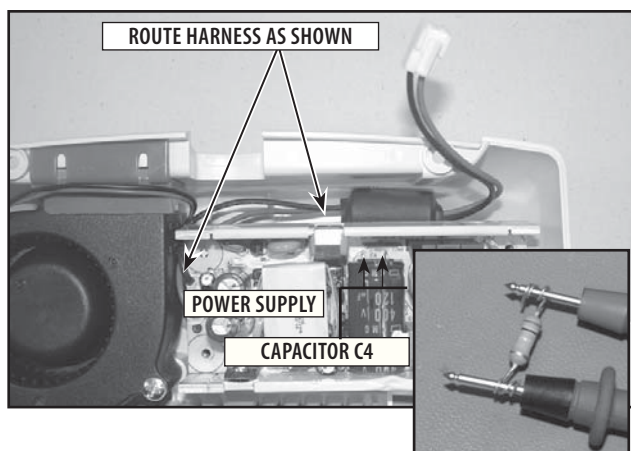
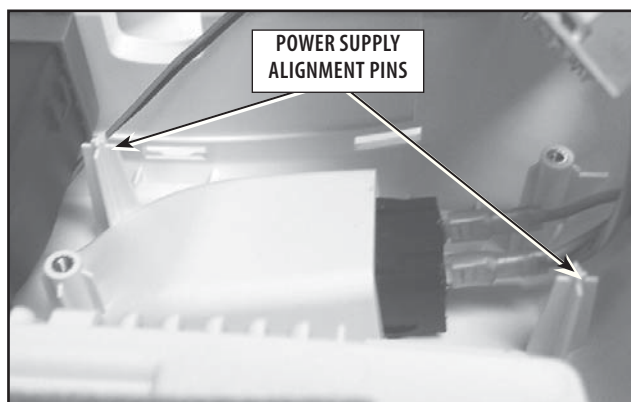

FIGURE 6.8
FIGURE 6.11
2. Discharge the capacitor by wrapping a 10k resistor around the probes of a multimeter. Touch the leads of the multimeter to the prongs on the capacitor to discharge. **Figure 6.8 Insert.**
8. Reverse **steps 4 - 7** to install the replacement. Refer to **Figure 6.8** to correctly route Power Supply Harness. Make certain the Power Supply sits onto alignment pins as shown in **Figure 6.11**.